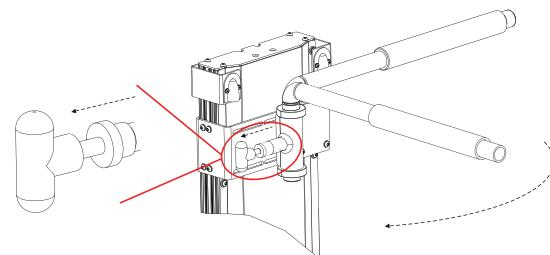

Figure 3-10
- The hold-down arm can be rotated over the center of the seat. Pull the T-handle and rotate the arm to the desired position. Release the T-handle to lock in place. *See Figure 3-10.*